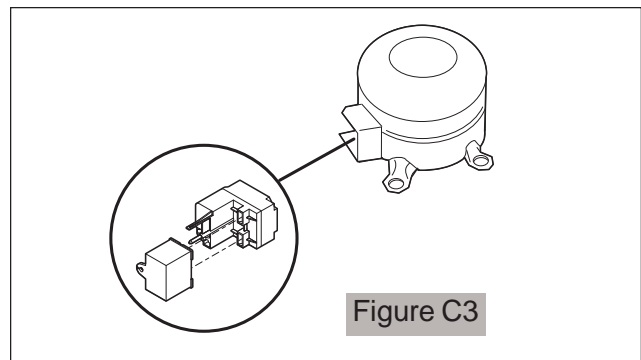

Figure C3
3. Remove relay assembly from compressor. (See Figure C3)